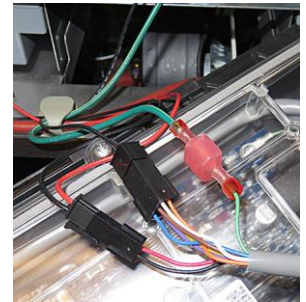

Figure 8
10. Disconnect the other cables from the connectors on the back of the controller marking their position for reassembly (see Figure 8).